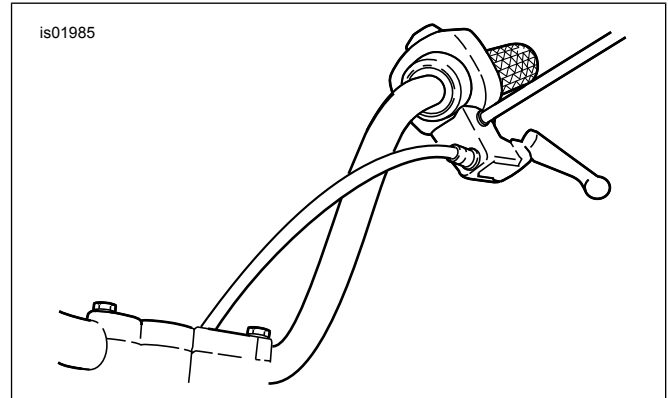

Figure 1. New Clutch Cable Routing
- For FXSTB Models:** Proceed to Step 3. **For all except FXSTB:** See Figure 1. Relocate the clutch cable to the inside of the handlebars as follows:
- See Figure 1. Route clutch cable to the inside of the handlebars and reconnect clutch cable to clutch lever.